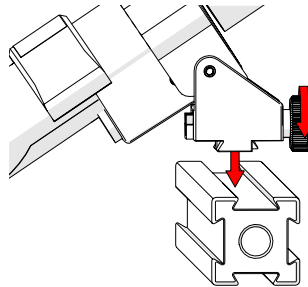

Fig. 173 - Mount on frame bar
1. Loosen the battery powered optical guide knob and mount the guide to the frame bar (*Fig. 173*).